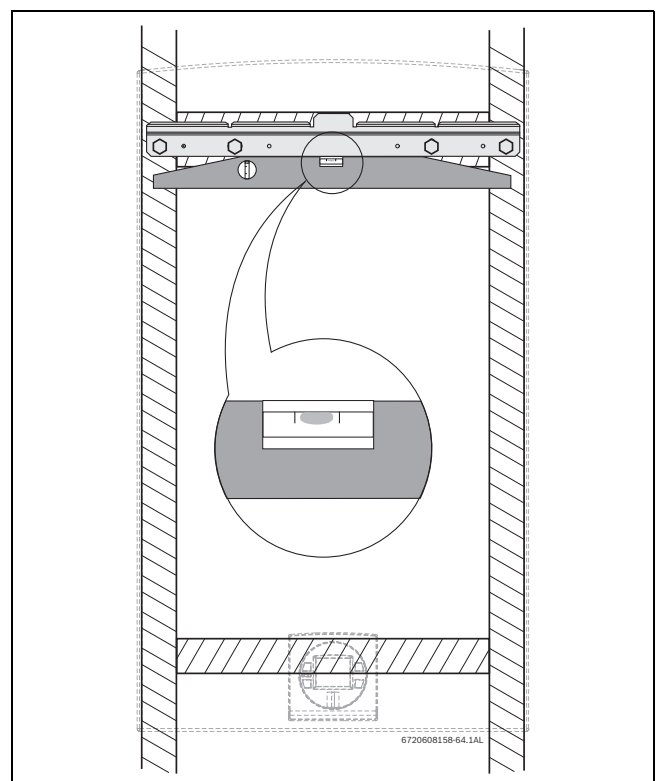

Fig. 30 Leveling wall mounting bracket
- ▶ Secure the wall mounting bracket provided with the heater to a wall surface. The heater must be kept level on the wall surface, see fig. 30, page 25.